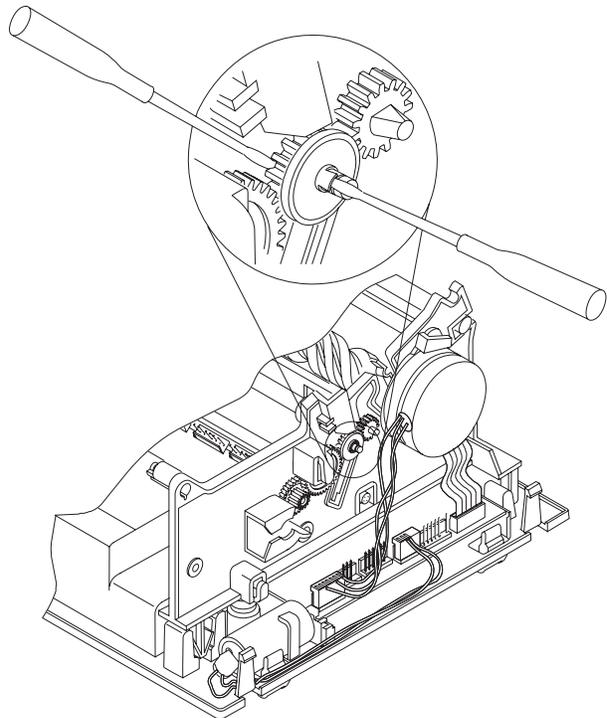

Figure 6-66. Removing DI gears
- 3 Remove gear (1) by using a small screwdriver to gently pry outward on the plastic retainer holding the gear to the shaft. Use a second screwdriver to pry the gear off the shaft. See Figure 6-66.
- 4 Remove gears (2),(3), and (4), in that order, by simply sliding them off their shaft.